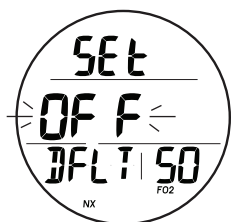

Fig. 48 - SET FO2 DEFAULT
**Set FO2 50% Default**, information includes (Fig. 48):